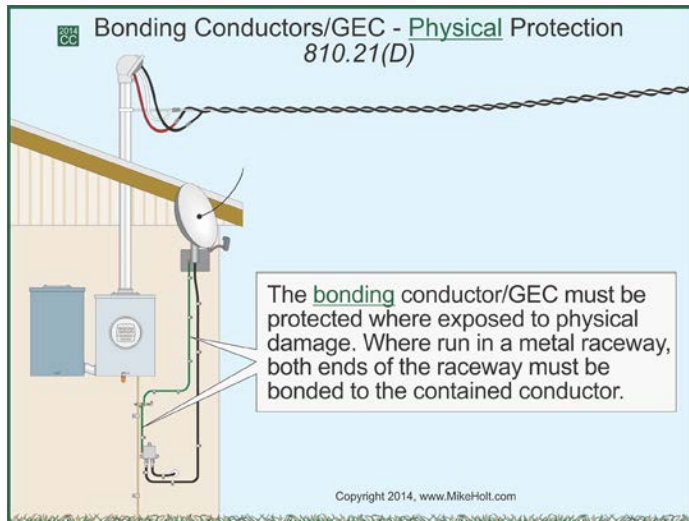

Figure 810-12
(D) Physical Protection. Bonding conductors or grounding electrode conductors must be mechanically protected where subject to physical damage, and where installed in a metal raceway, both ends of the raceway must be bonded to the bonding conductor or grounding electrode conductor. Figure 810-12